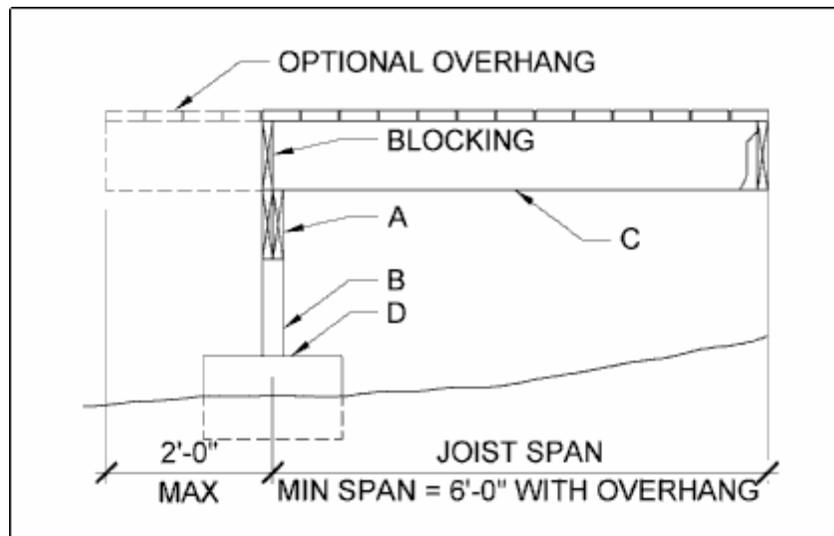

Figure 1 - Joist Span – Deck Attached At House
- Determine how big and what configuration you want your deck. **Note:** The drawings contained in this document may indicate square or rectangular configurations; however, configurations can be diamond, trapezoidal, or other shapes as long as the longest spans are used to determine beam, joist, and footing sizes. The deck can have up to a two-foot maximum joist and/or beam overhang. See Figures 1, 2, and 3. Beams must be support on each end by a post and cannot be supported with beam hangers off the house. (Beams are identified as item "A", posts as item "B", joists as item "C," and footings as item "D.") **It is recommended that you first determine the joist span "C," and then note what beam and footing sizes you will need.**
The span of a joist is measured from the centerline of bearing at one end of the joist to the centerline of bearing at the other and does not include overhangs. Maximum joist span lengths are noted in Tables 2 and 3. See Figures 1 and 2 for joist span types.